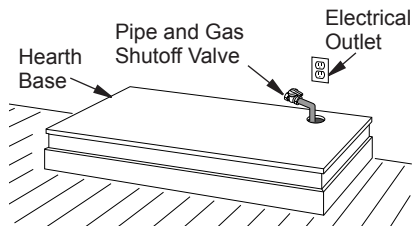

**Figure 11 - Minimum Mantel Clearances for Built-In Installation**
C. For mantel clearances, see Figure 11, page 12.
**NOTICE: If your installation does not meet the minimum clearances shown in Figure 11, you must do one of the following:**